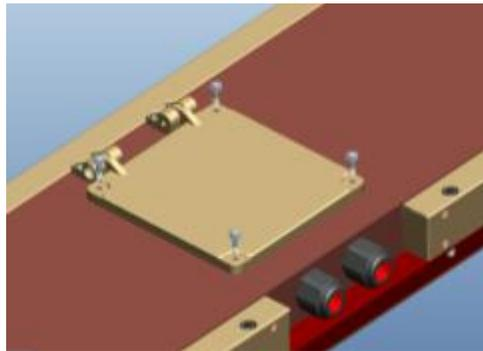

Figure 3-32. Opening DC Chamber Panel
1. Open DC power chamber panel by loosening four M3 screws, as shown in Figure 3-32.